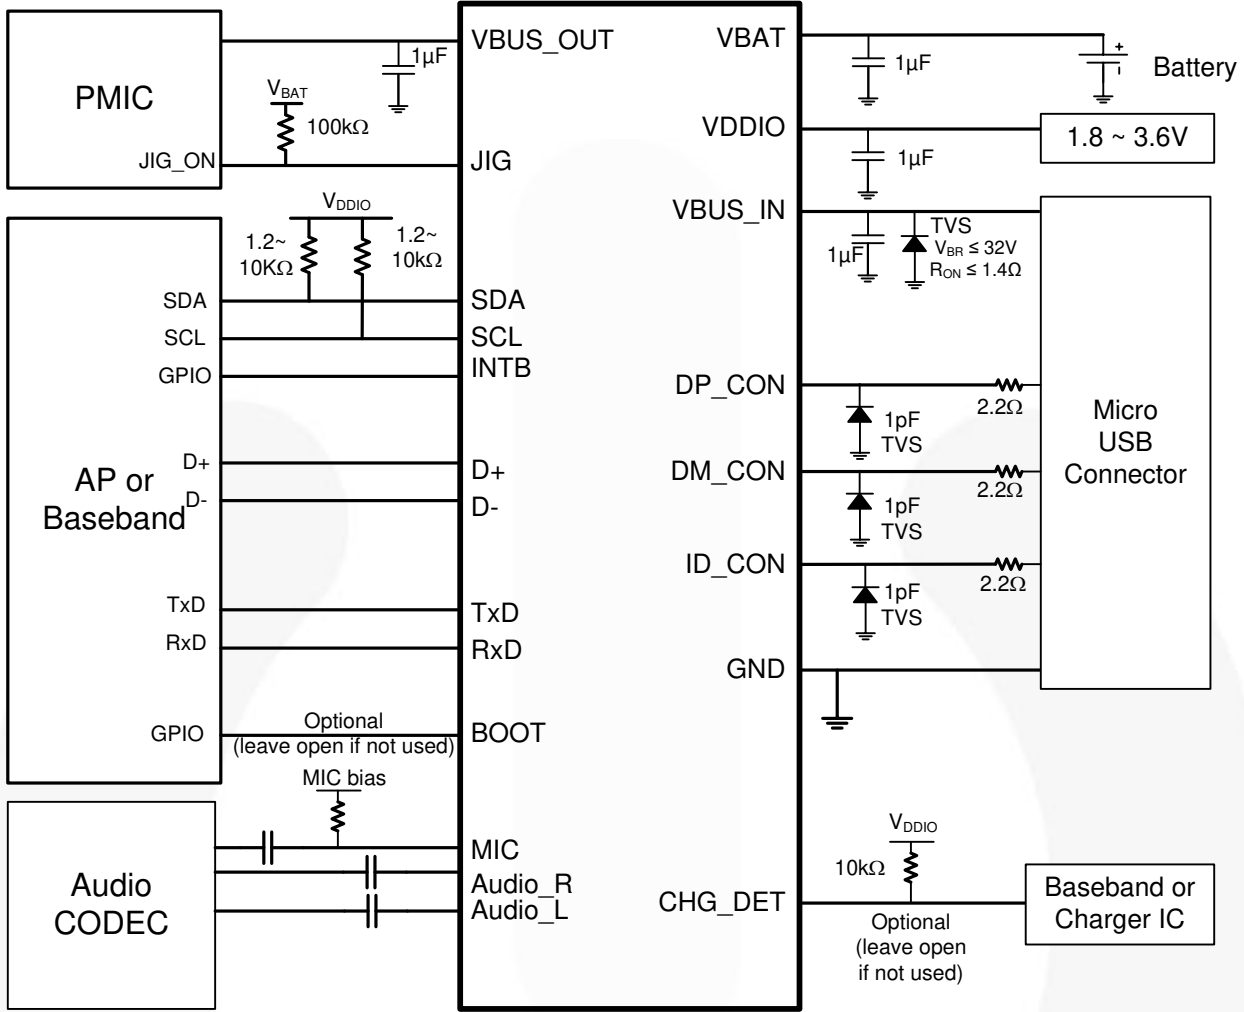

Figure 27. Reference Schematic
3. Add as large a decoupling capacitor as possible ( $\geq 1\mu\text{F}$ ) between the  $V_{BAT}$  pin and GND to shunt any power supply noise away from the FSA9280A. Also add decoupling capacitance at the PA (*see the reference application schematic in Figure 27 for recommended decoupling capacitor values*).
4. Add 33pF shunt capacitors on any PCB nodes with the potential to collect radiated energy from the phone transmitter. At a minimum, add these 33pF capacitors to the MIC pin (*see Figure 27*).